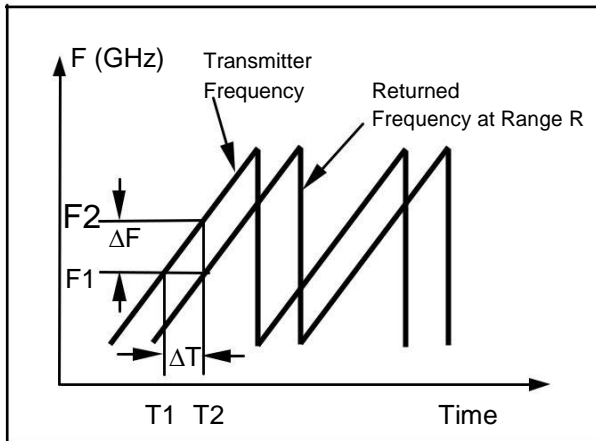

Figure 5. FMCW Radar Frequency vs. Time
The simplified block diagram of an FMCW Radar formed by using Ducommun's Technologies' single channel sensor head is shown in the figure shown. In a similar manner, DC power high supply for DC Gunn power supply oscillator for bias, Gunn oscillator modulator, voltage low modulator, noise amplifier low and noise DSP amplifier circuitry and the DSP minimum circuitry require the minimum for a system realized by designers such as radar realized systems such as a radar range system information. can be extracted from the frequency difference information between the transmitted and returned frequency signal difference at distance between R, the signal transmitted and time (returned ΔT) an signal the frequency at distance modulation R, the signal rate (N) transit. The time (returned ΔT) and is briefly the frequency illustrated in the figure. The detail. The idea explains briefly as illustrated follow. At time T_1 , Fig. 5. The signal details transmitted is explained and as follow fed to. At the mixer T_1 , the frequency signal is F_1 . The F_1 transmitted returned and from the target at distance at frequency R is received F_2 . The at T_2 , returned while the from transmitting the target at distance L of frequency R is received is F_2 . With T_2 , known while the ramping transmitting rate (N), and one can find the transit time by using